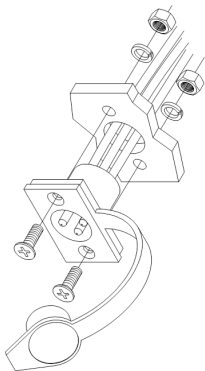

Fig.7: Remote socket installation
- After determining the mounting location for the remote socket, drill three holes and install. (see fig.7)